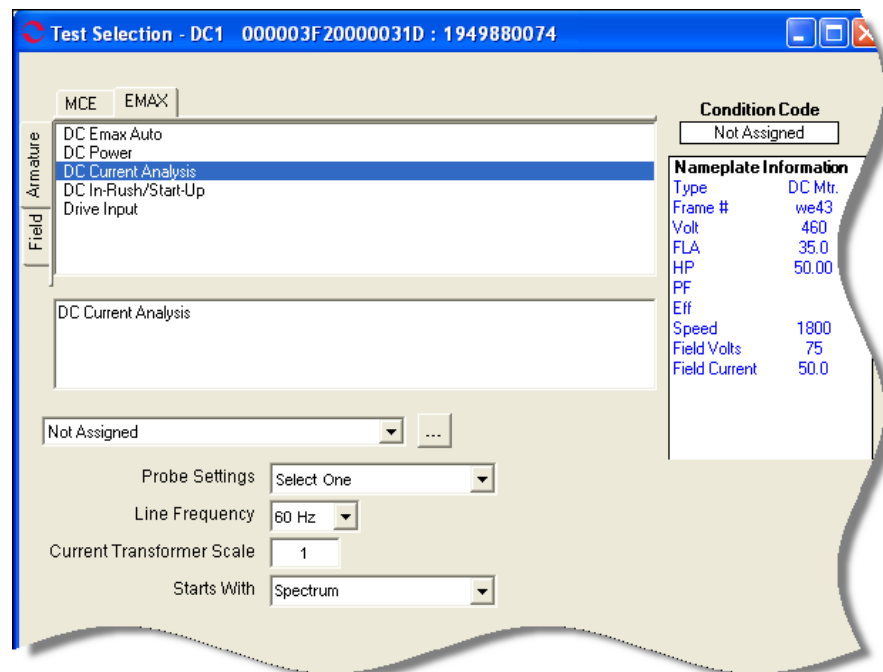

Figure 6-35: DC Current Analysis Test Selection Window
4. Select the Test Selection icon  on the toolbar. The Test Selection window, shown in Figure 6-35 opens.